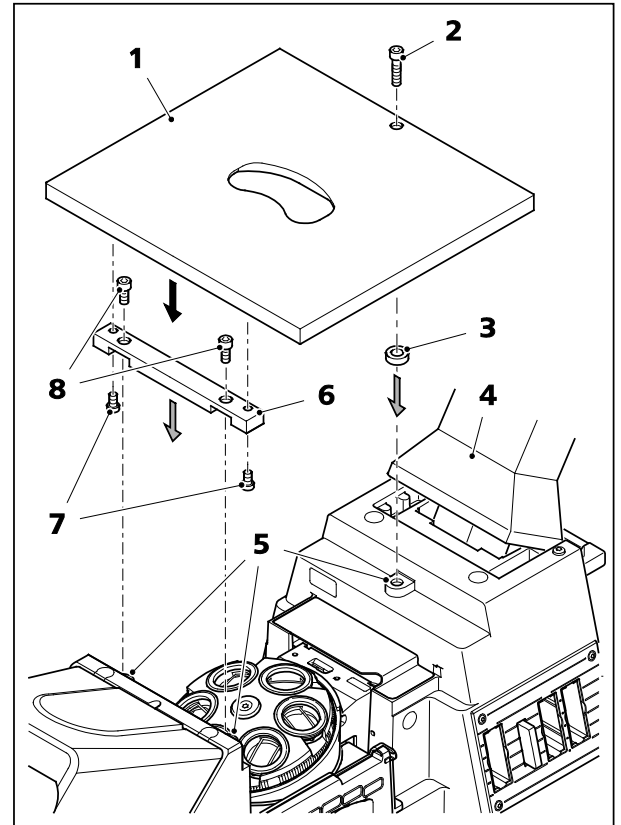

Fig. 28 Fitting the specimen stage 250x230 mm
- To improve access during stage assembly, the carrier for transmitted-light illumination (Fig. 28/4) can be tilted backwards.
- Using the two shorter Allen screws (Fig. 28/8), screw the spacer bar (Fig. 28/6) to the two front attachment points (Fig. 28/5).
- Place the spacer disk (Fig. 28/3) onto the rear attachment point.
- Place the specimen stage (Fig. 28/1) onto the stand and screw to the rear attachment point from above using the longer Allen screw (Fig. 28/2). Ensure that the screw passes through the hole in the spacer disk.
- Screw the specimen stage to the spacer bar from below using two Allen screws (Fig. 28/7), left and right.
- Tighten the rear screw (Fig. 28/2).
- Tilt the carrier for transmitted-light illumination (Fig. 28/4) backwards and rotate the condenser carrier to the highest position.
- Carefully tilt the carrier for transmitted-light illumination (Fig. 28/4) back into the forward position. Ensure that the condenser does not hit the specimen or the mounting frame.